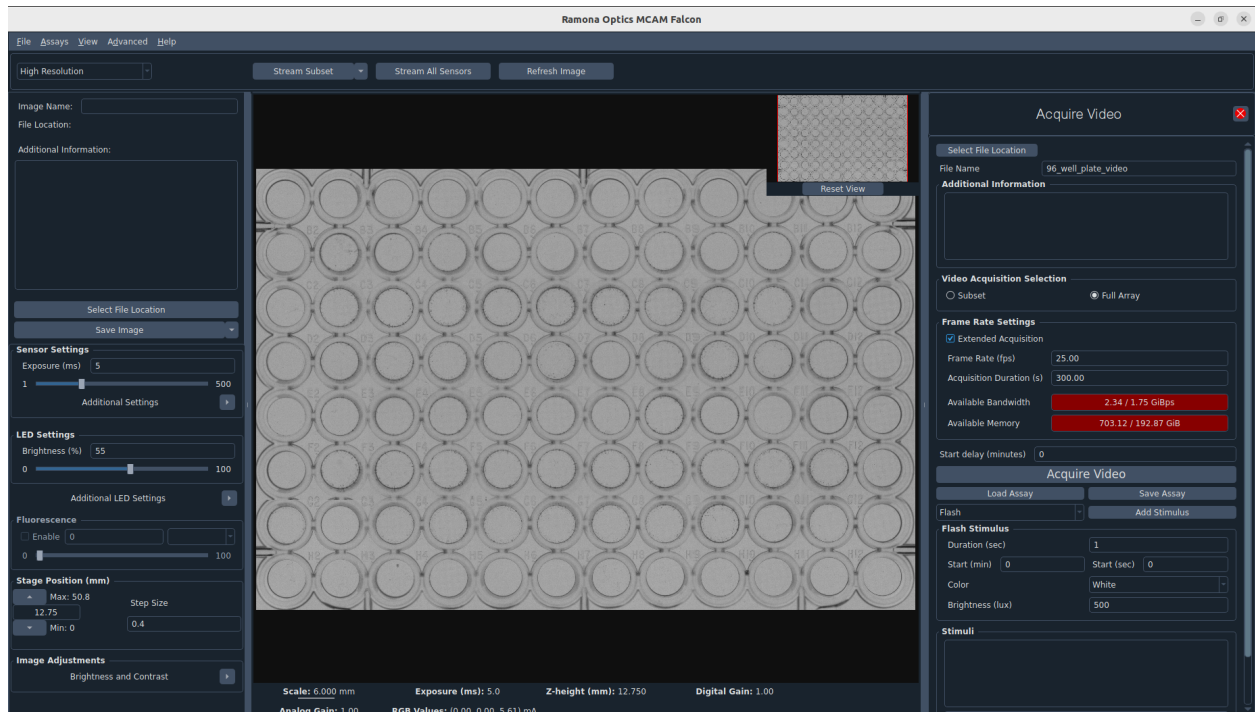

Fig 96: “Extended Acquisition” mode activated on “Acquire Video” panel.
2. The recording duration must be done in "Extended Acquisition" mode (Fig 96).